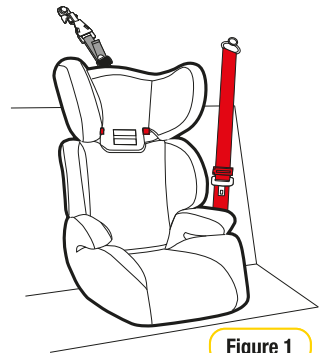

Figure 1
Step 1: Place the child restraint in the car, in a forward facing seating position (Refer the Figure 1).